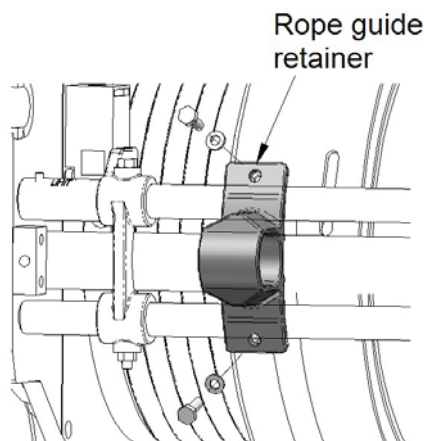

Figure 72 – Fitting Rope Guide Retainer – Standard Environments Rv-1 (see hoist nameplate for revision)
- Tighten the screws to 8Nm (see Figure 72).